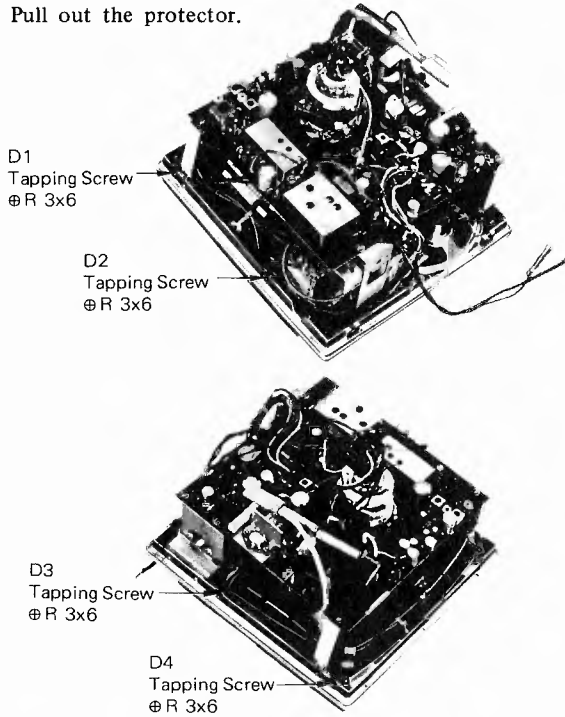

Fig. 10 Protector Removal, step 2.
2. Remove the four screws labeled D1-4 in Fig. 10.